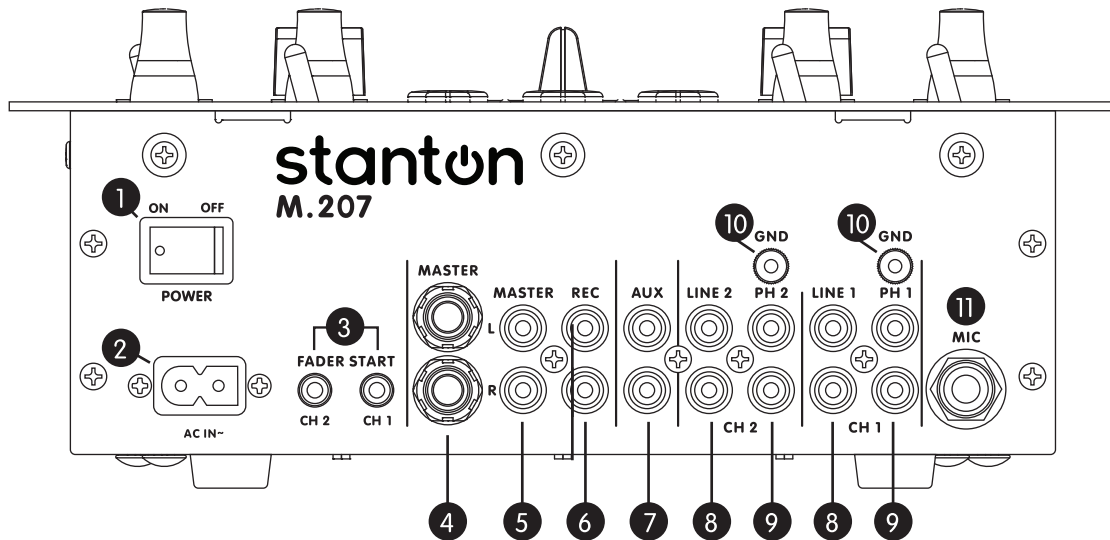

Figure 3.3
3.3 M.207 Description - Rear Panel (Figure 3.3)